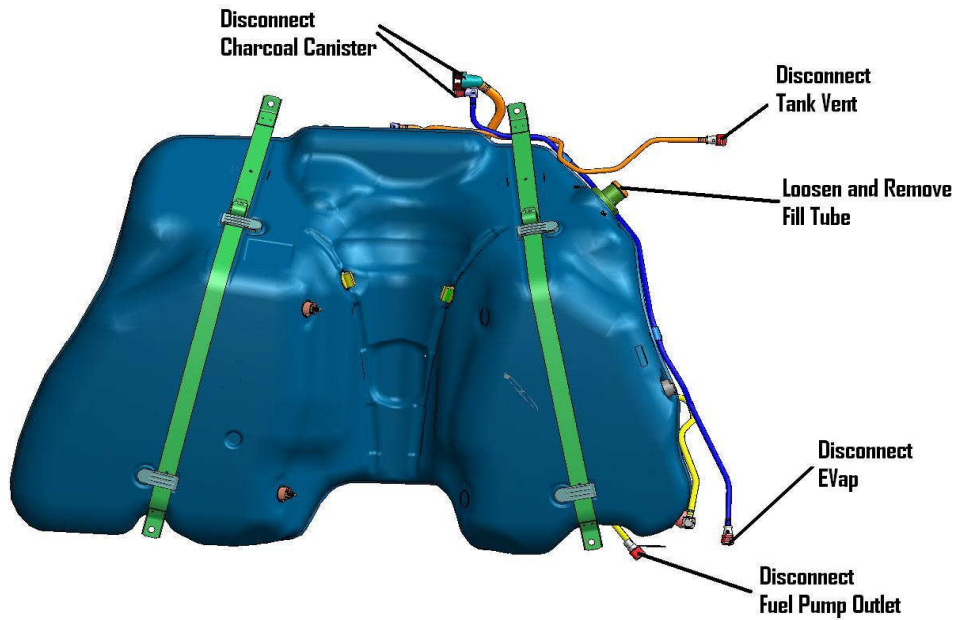

FIGURE 1-1
8. Disconnect all the following connections in **Figure 1-1**.